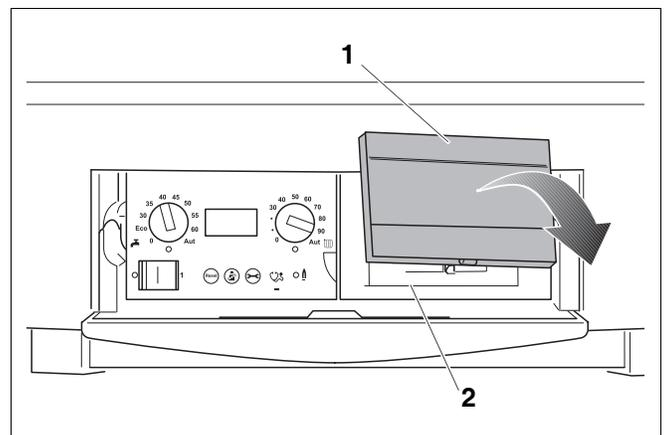

Fig. 33 Remove the cover and install the room controller in the boiler (only for outdoor temperature-dependant operation).
- Remove the cover (fig. 33, pos. 1).
- Install the RC35 in the slot (fig. 33, pos. 2).